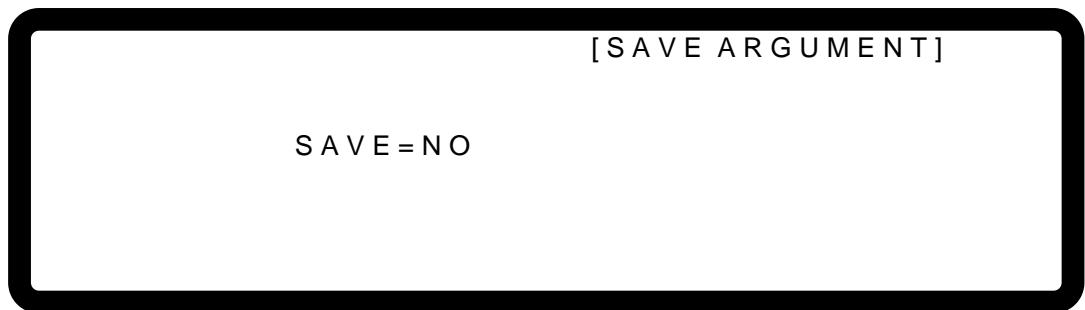

Figure 3-129
8. The APG Voltage calibration is done once the above actions are completed. To save the calibration data, pressing “[SAVE]” will display a confirmation page as shown in Figure 3-129. Press “[1]” or turn the “Rotary” () to set SAVE=YES and press “[ENTER]” to save it. If there is no need to save it, press “[EXIT]” to return to the Calibration screen.